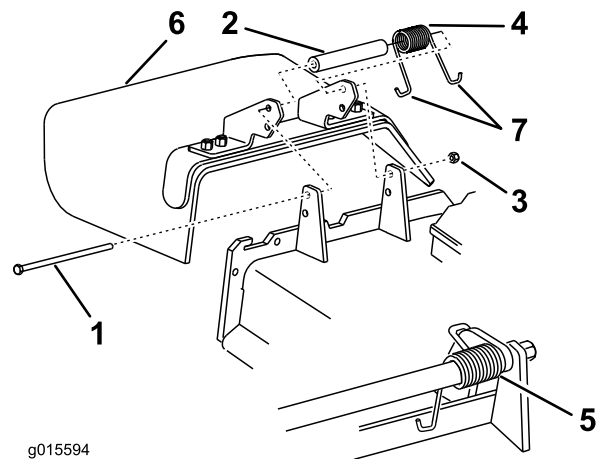

Figure 61
1. Place one end of the spring behind the deck edge and the other end on the grass deflector (Figure 61).
2. Use the bolt and nut to secure the grass deflector assembly to the mower deck (Figure 61).
3. Place the J-hook end of the spring around the grass deflector (Figure 61).